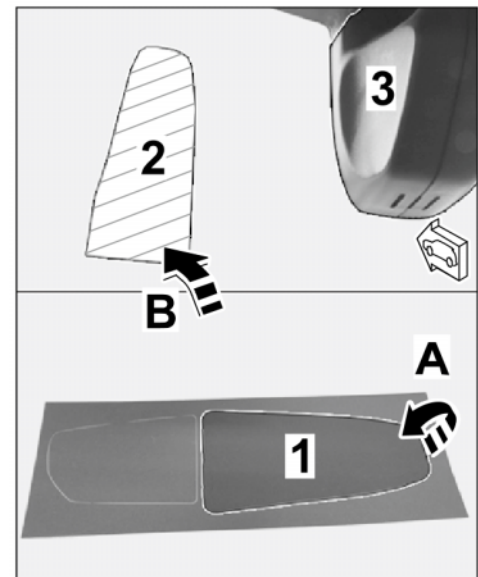

Figure 8
2.2.1 Pull 3M privacy film off the backing sheet (⇒ *Figure 8-A-*).
2.2.2 Position 3M privacy film on the marked bonding surface on the windscreen (⇒ *Figure 8-B-*) and stick it.